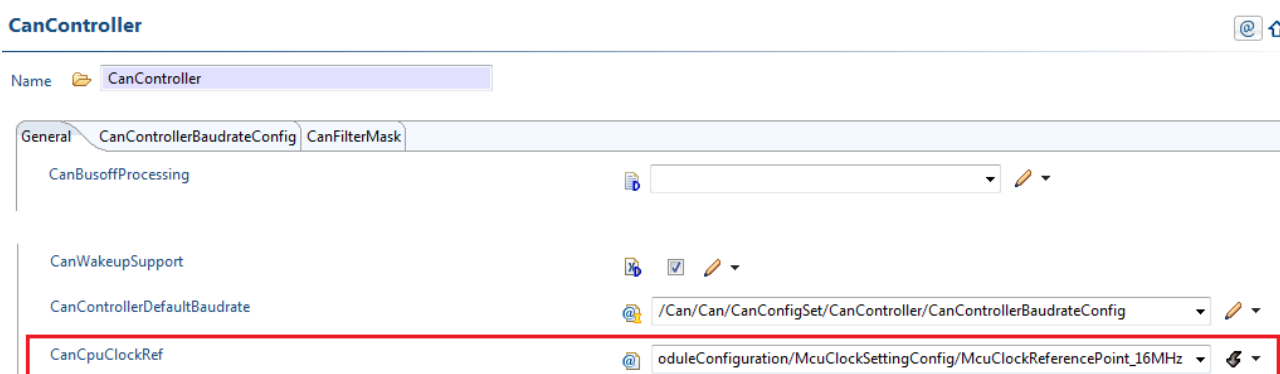

Figure 4.8. Configuring CanCpuClockRef
2. Update the parameter `CanCpuClockRef`. For an example, see Figure 4.8, “Configuring CanCpuClockRef”.